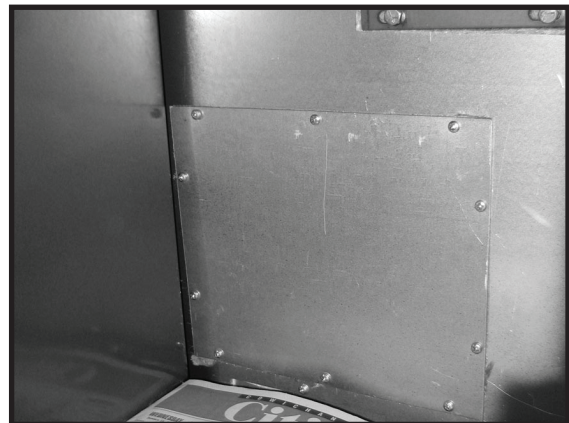

Figure 64: Access panel.
4. The access panel is now exposed and can be removed (Figure 64).